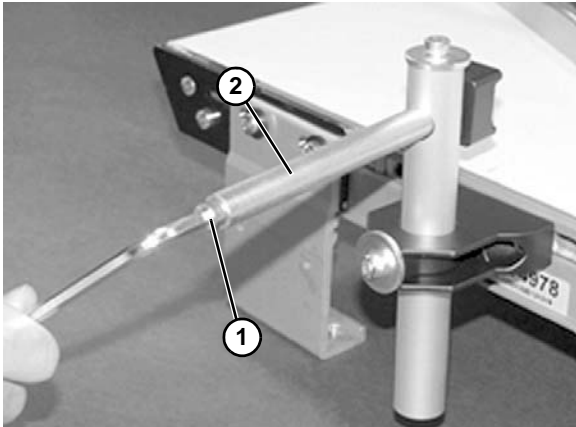
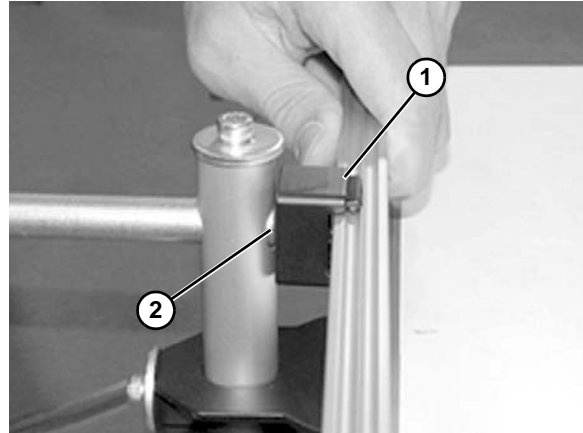
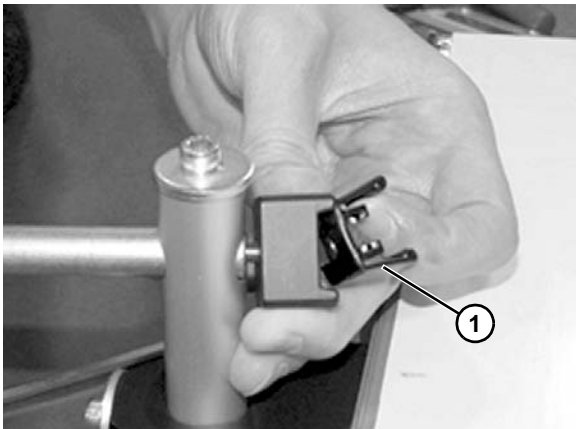

Figure 63
Figure 66
Figure 64
3. Loosen screw (**Figure 63, item 1**) on end of shaft (**Figure 63, item 2**) to remove clip (**Figure 64, item 1**).
5. Reassemble clip (**Figure 66, item 1**) and attach to shaft (**Figure 66, item 2**). Tighten screw (**Figure 63, item 1**) on end of shaft.